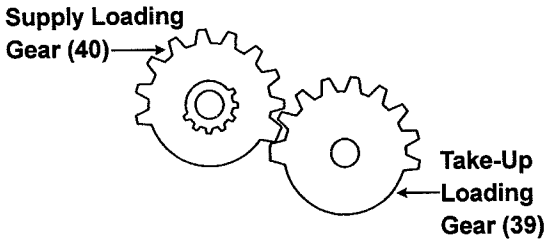

Figure 4
Align the Take-Up Loading Gear (39) with the Supply Loading Gear (40) as shown in figure 4.